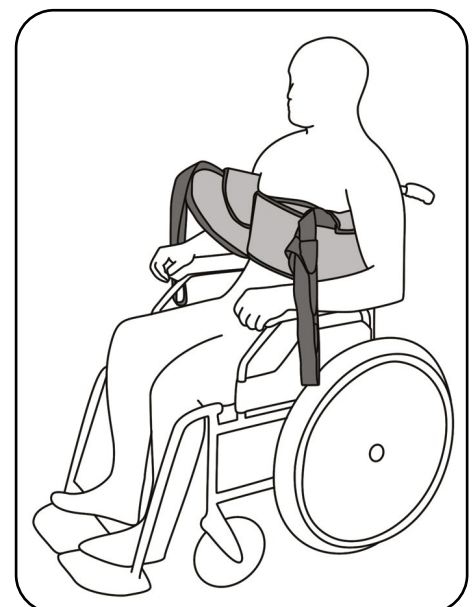

Fig. 9.3.03 – Closed breast loop
7. Close the breast loop around the patient's chest with the Velcro fastener in such a way that the hoist sling is secured in position and does not constrict the patient (Fig. 9.3.03).